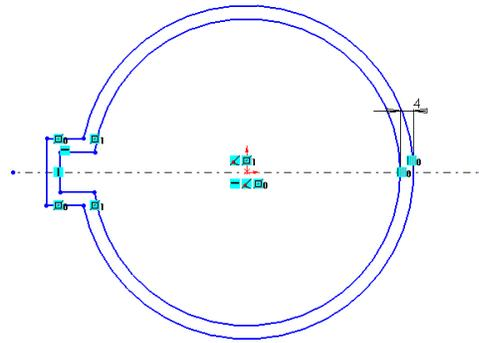

Figure 3-70 Sketch after offsetting the outer loop
- e. Offset the entire sketch, refer to Figure 3-70.
The sketch after offsetting the outer loop is shown in Figure 3-70.